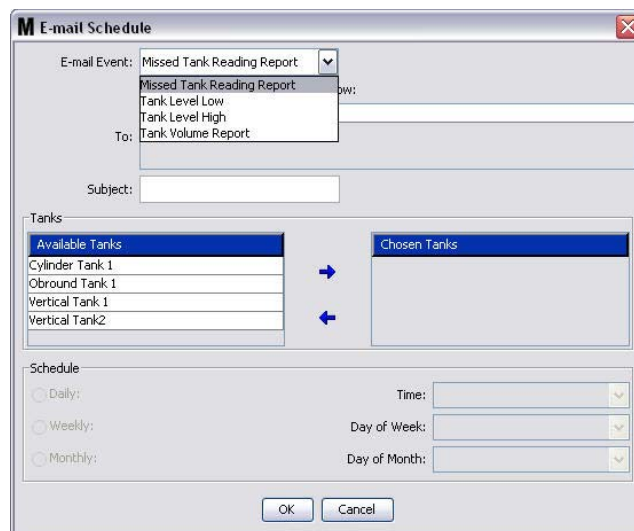

FIG. 154
1. Click the New Schedule button to display the E-mail Schedule setup screen shown in FIG. 154.
2. The E-Mail Schedule screen shown in FIG. 154 on page 112 displays. When you have finished making changes, click OK button to close the screen and save the changes.